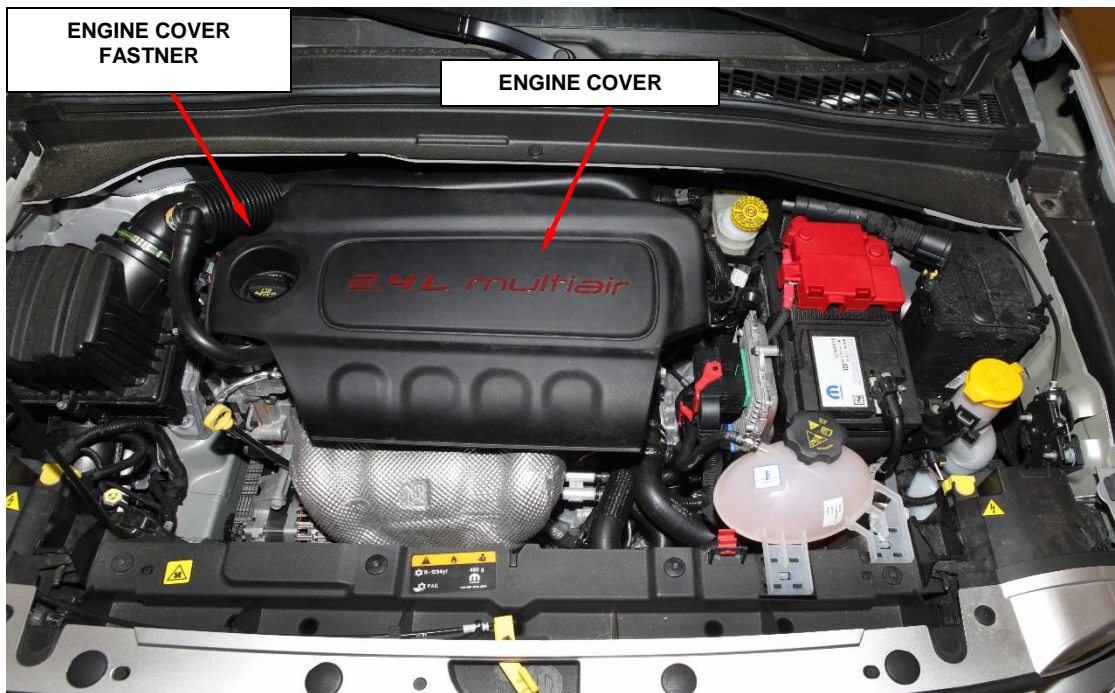

Figure 2 – Engine Cover
5. Remove the engine cover fastener located at the left top of the cover (Figure 2).
34. Align the engine cover with the engine cover retaining studs and push down on cover to secure the cover and install and secure the fastener (Figure 2).